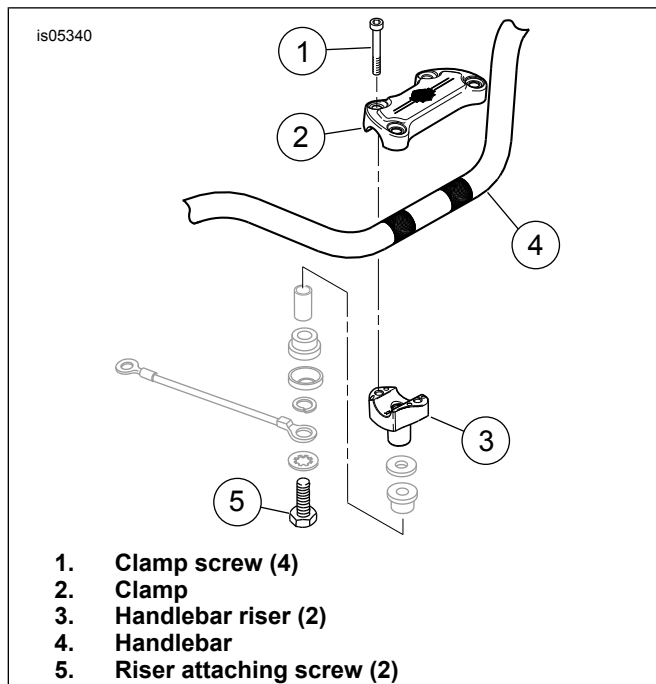

Figure 1. Handlebar Clamps and Risers
8. See Figure 1. Remove and discard screws (1), upper clamp (2) and handlebar (4).